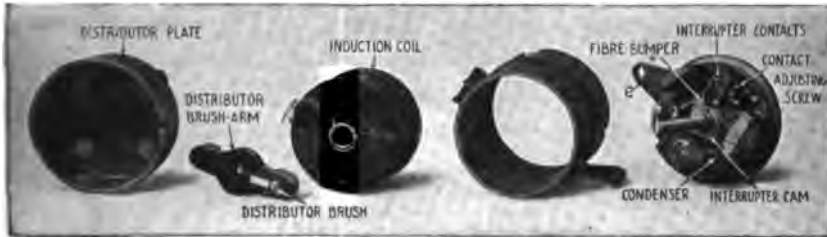

Fig. 445. Parts of Westinghouse Ignition Unit
*Operation of Ignition Unit.* The vertical ignition unit of the Westinghouse type is composed of four essential units, viz, the interrupter, or contact-breaker; the induction coil; the distributor; and the condenser. The operation of the interrupter may be observed by loosening the thumb screw *E* and sliding upward the loose section of the insulating housing which forms the interrupter cover, Fig. 445. With the ignition switch "On" and the engine running, each segment of the interrupter cam, in turn, passes on and off the fiber bumper, Fig. 445. As each cam passes off the bumper, the interrupter contacts